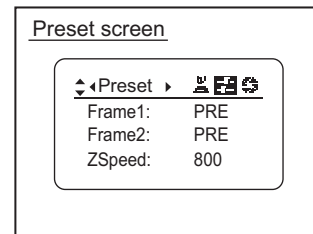

Fig1-5
3. Preset screen [Icon] (See Fig. 1-5 below)